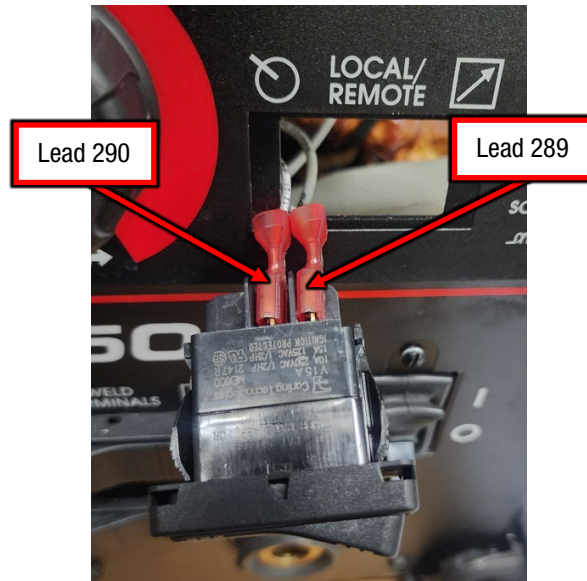

Figure F.2
- A.2. Label and disconnect the following connections, refer to Figure F.2.
- A.3. Perform the static measurements in Test Table 1, refer to Figure F.2 for test point Locations, set the switch “Condition(s)” as directed in Table 1. NOTE: MEASUREMENTS ARE TAKEN ON THE TERMINALS NOT LEADS.